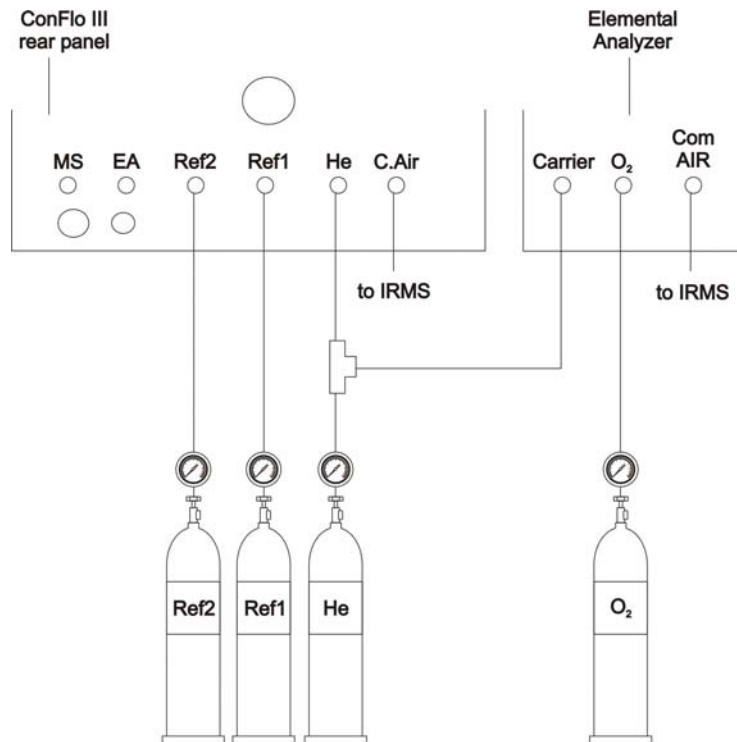

Figure 2-9. Gas Flow Diagram
Warning. For detailed information, refer to the gas flow diagram (Figure 2-9). Wrong handling of the toxic gases CO and SO₂ is perilous! Inform yourself how to handle these gases by reading the directions for use and asking your local gas tank seller. Thermo Electron does not take any responsibility if the standard gas (CO) or other gases, e.g. SO₂, are used incorrectly.